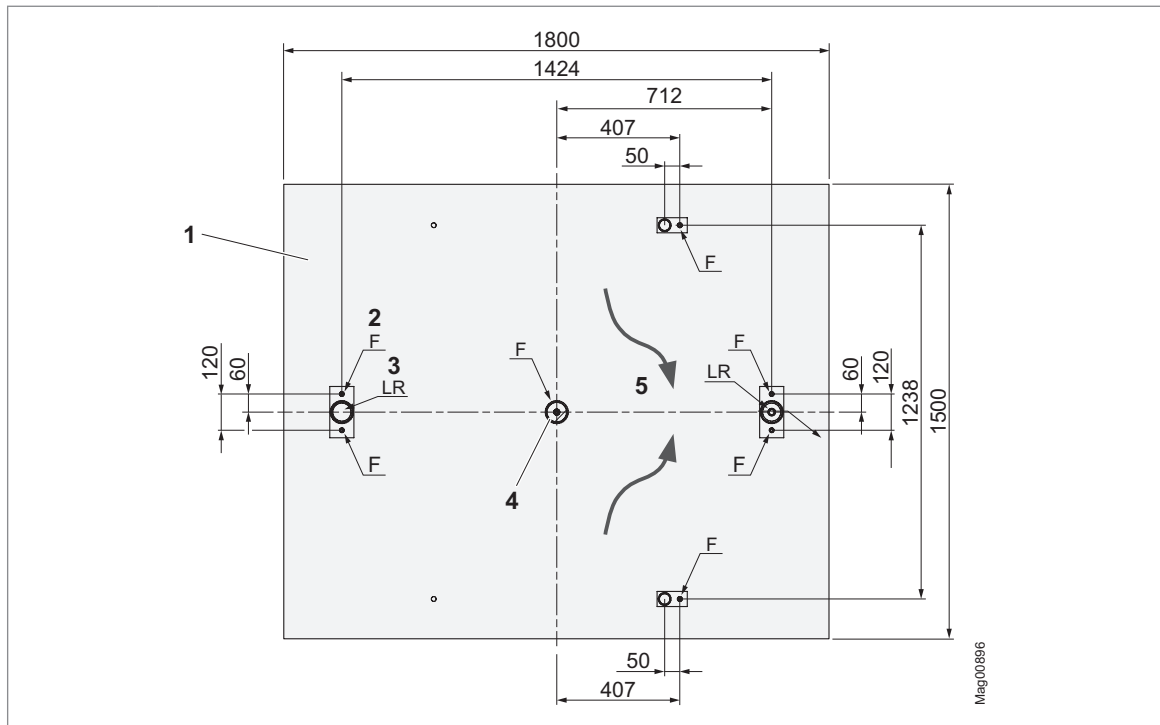
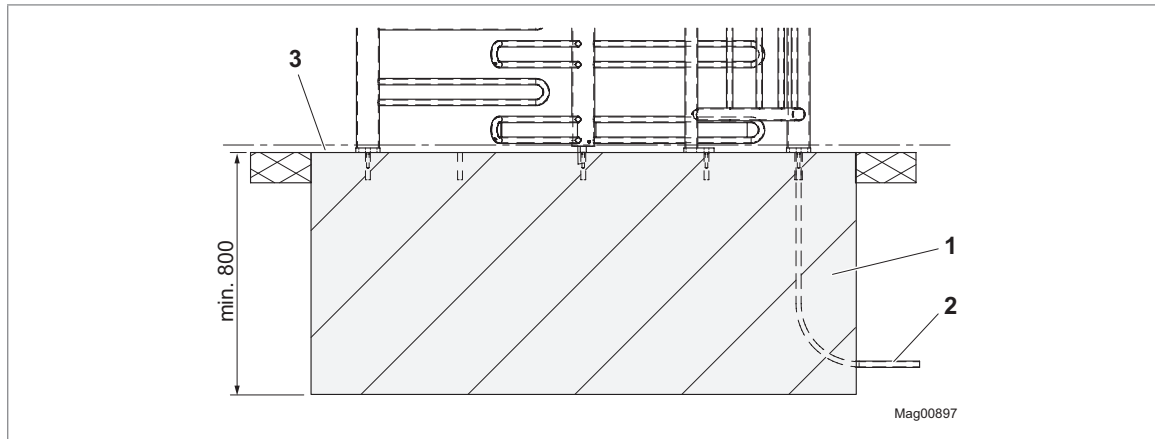

Fig. 18: Foundation and empty conduit plan for direct mounting MPT-333 – top view (dimensions in mm)
Fig. 19: Foundation and empty conduit plan for direct mounting MPT-333 – side view (dimensions in mm)
➤ Page 45, Fig. 18 and ➤ Page 46, Fig. 19.
↗ Page 45, Fig. 18 and ↗ Page 46, Fig. 19.
1. Mark holes for sleeve with inner thread. A drilling template is included in the scope of delivery. ↗ Page 45, Fig. 18.